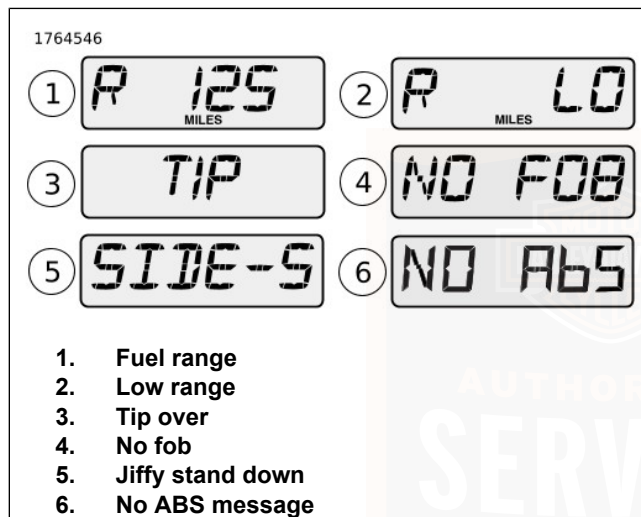

Figure 34. Odometer Window Displays
See Figure 34. The fuel range display (1) shows the approximate mileage available with the amount of fuel left in the fuel tank.
See Figure 34. After the fuel range drops to approximately 10 miles or 10 kilometers remaining, the fuel range display will scroll "R LO" (2) to indicate that the motorcycle will shortly run out of fuel.
See Figure 34. Should motorcycle be tipped over, the word "TIP" (3) appears in the odometer window. The engine can not start until reset.
See Figure 34. If the motorcycle is driven off leaving the fob behind, "NO FOB" (4) temporarily displays in the odometer window.
See Figure 34. On international (HDI) models, a "SIDE-STAND" (5) message will scroll across the display if the motorcycle is placed into gear while the jiffy stand is down.
See Figure 34. If the motorcycle is equipped with a Non-ABS brake system, a 'NO ABS' message will display in the odometer window during instrument test after ignition turned ON. See OPERATION > BRAKE SYSTEM (Page 102).